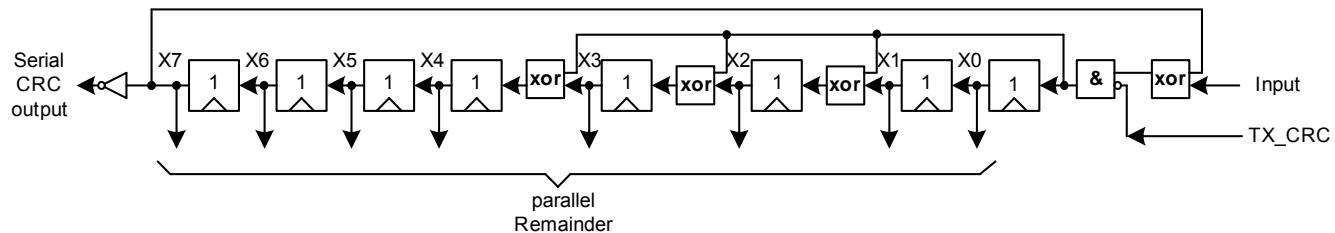

Figure 23 Fast CRC polynomial division circuit
- Generator-Polynomial: $X^8 + X^4 + X^3 + X^2 + 1$, but for the CRC generation the fast-CRC generation circuit is used (see Figure 23)